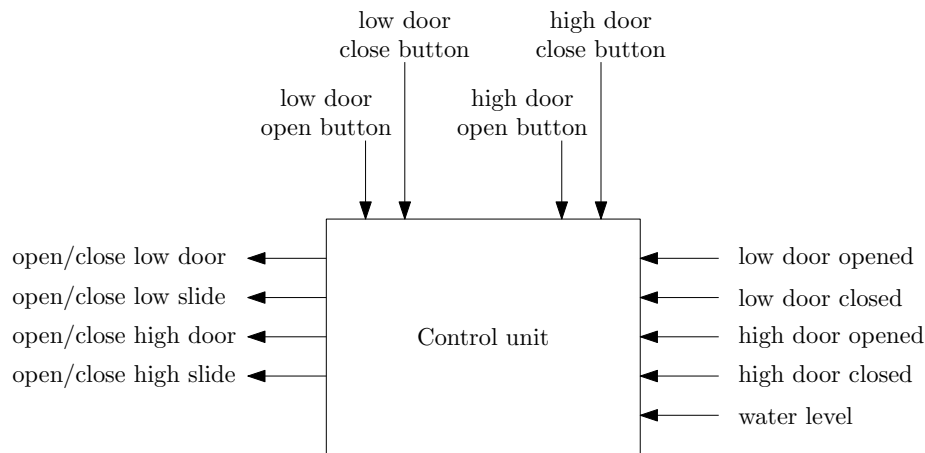

Figure 4: Control unit interface
The interface of the control unit is given in Figure 4. The control unit is connected to the doors, slides, and sensors from the locks, as well as the control panel.
The control unit displayed in Figure 4 is very simple, since it is connected to only one lock. Your objective is to model a system with n locks.
1. Describe the requirements of the control software. Make sure to take into account the guidelines described in the reader. Make sure you first identify the system. You should identify at least 4 actors. You shall include at least 7 requirements. The control software shall follow the interface described in Figure 4. To define actors and inputs and outputs, you probably need to extend the interface to deal with exceptional behaviors.